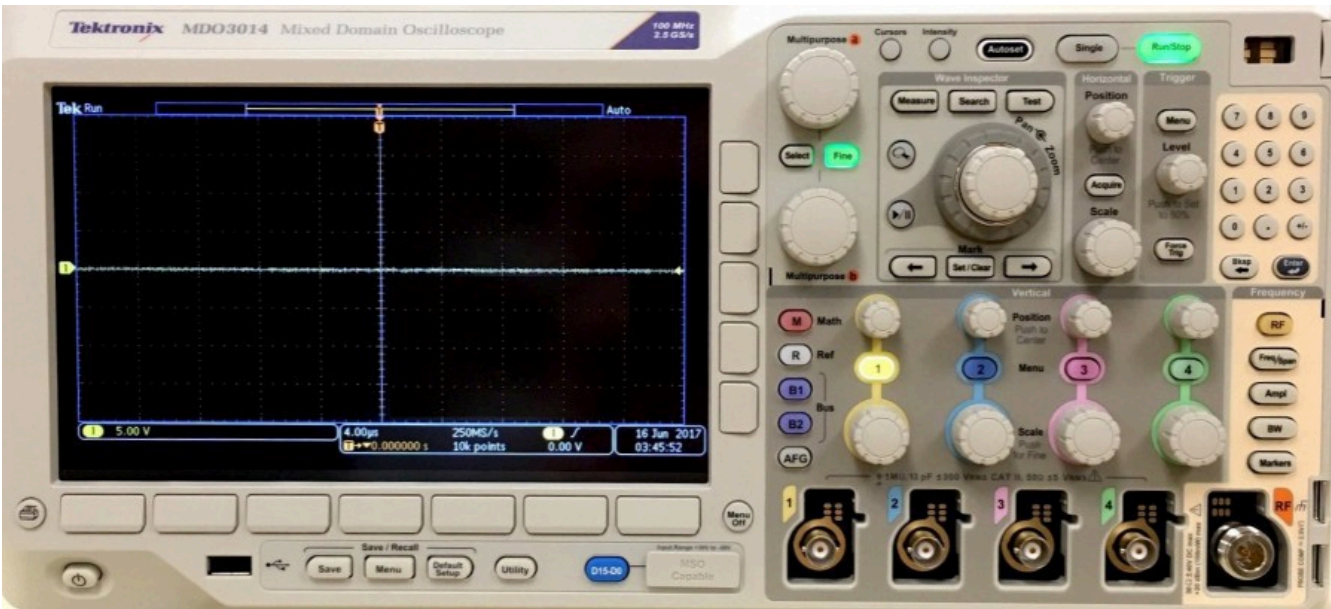

Figure 1
1. Figure 1 is a photo of the face of a Tektronix MDO 3000 series oscilloscope. Compare this to the bench oscilloscope and identify the following elements: